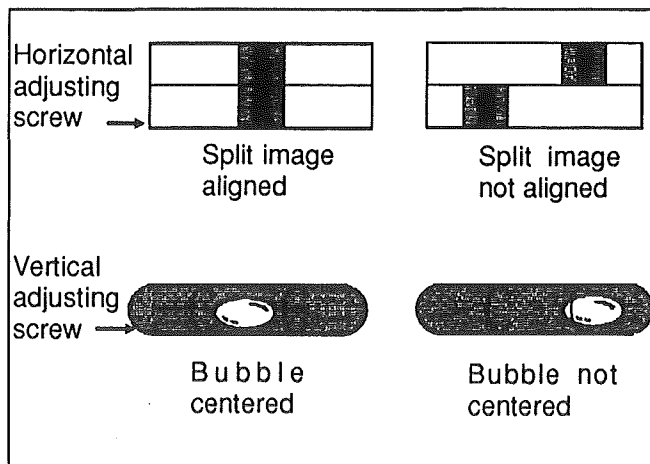

FIG. 42
3. Turn the horizontal aim adjusting screw of each headlight until split image is aligned (see fig. 42).
2. Turn the adjusting screw of the headlight vertical aim until bubble is centered (see fig. 42). Repeat operation on other headlight.